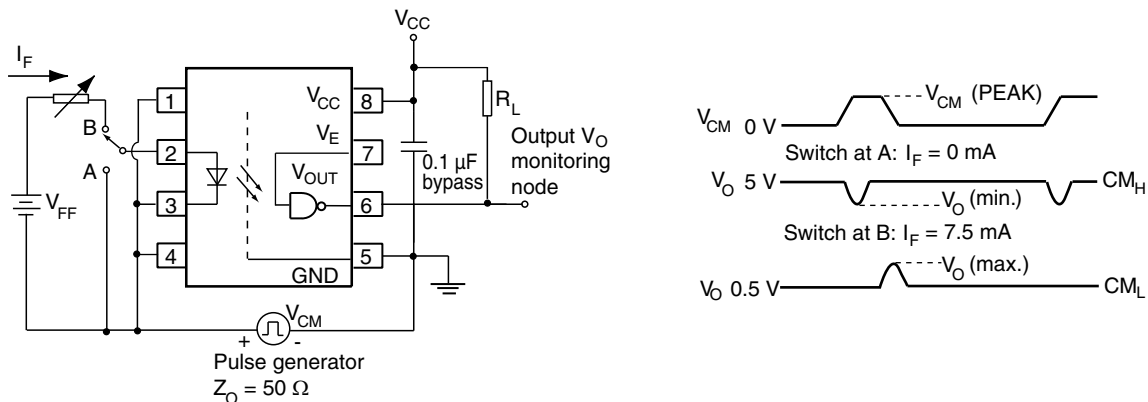

Fig. 4 - VOW137 Test Circuit for Common Mode Transient Immunity
- VOW137 CMTI test circuit refer to figure 4.